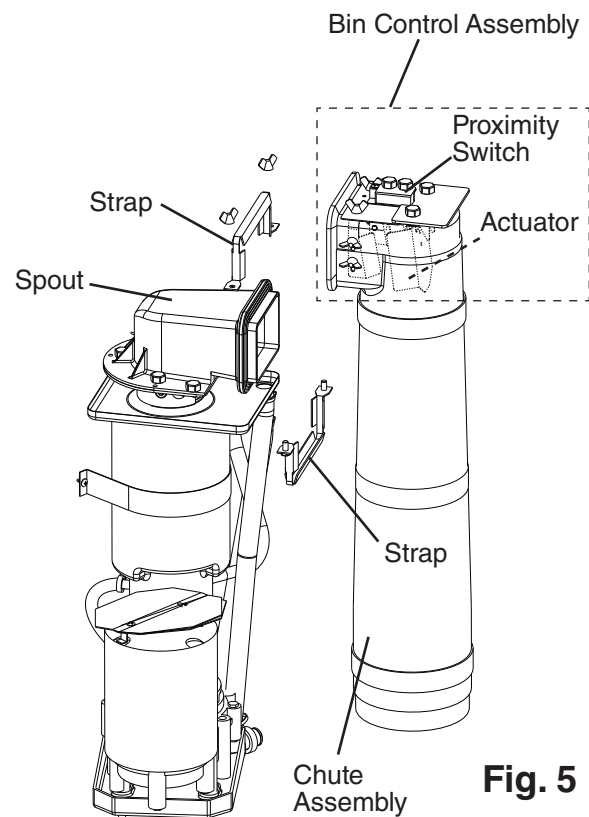

Fig. 5
- c) Remove the strap connecting the spout to the chute assembly. See Fig. 5. Pull up the chute assembly slightly so that you can access the actuator located in the top of the chute.